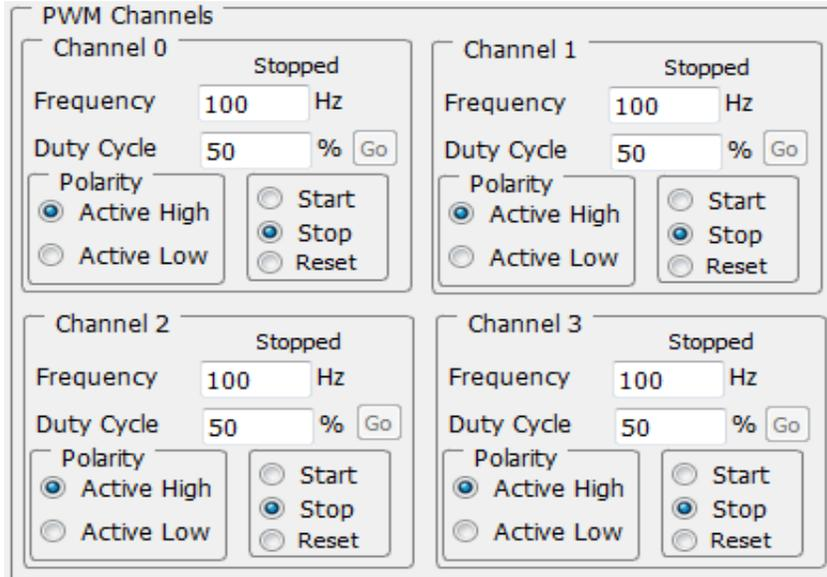

Figure 12: PWM Controls
- The screen shot of the oscilloscope is as shown in Figure 12.